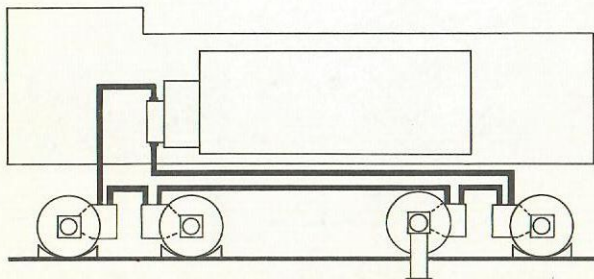

Fig. 35-10
b. Run motor from locomotive power plant; see Fig. 35-10. With wheels blocked, traction motor can be run for stoning commutator without disturbing locomotive connections, by going into first operating position. Current required is so low, no damage will result to the stationary motors through which current flows.